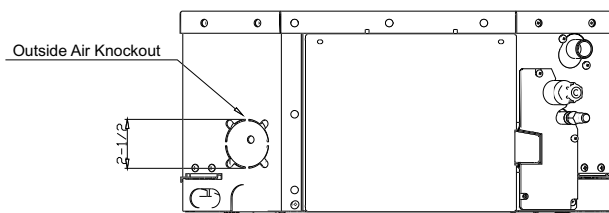

Fig. 15 — Connect Outside Air Duct to Outside Air Opening
2. Remove the knockout and connect the duct to supply the fresh air from outside. The diameter of the fresh air hole is 2-1/2 inches. See Fig. 15.